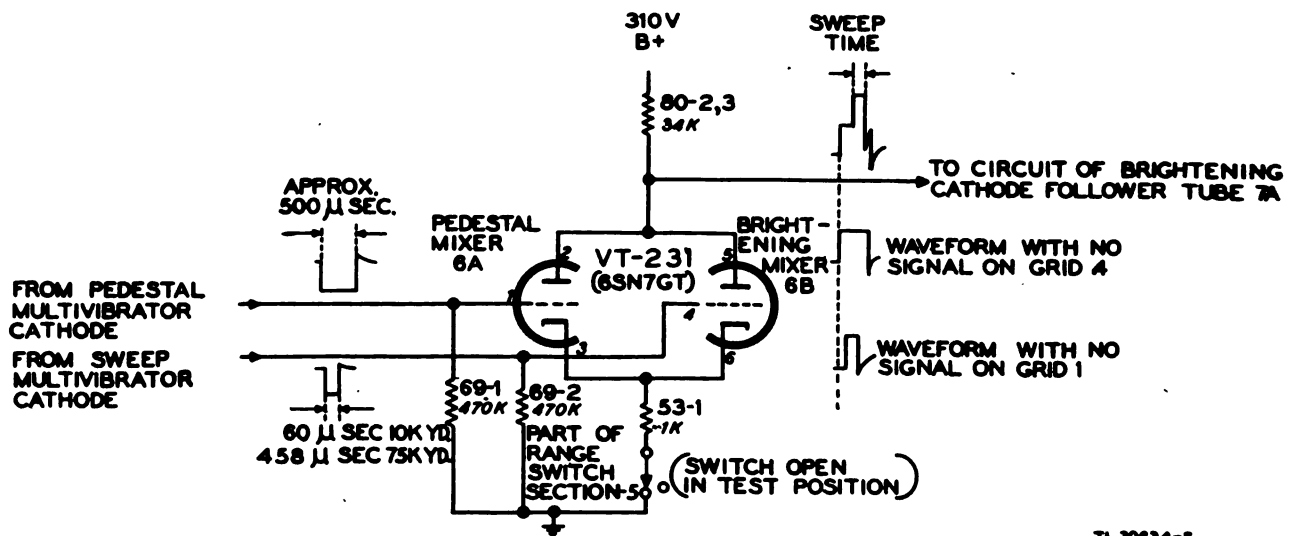

Figure 51. Sweep brightening mixers.
#### 43. SWEEP BRIGHTENING MIXERS (fig. 51).
ing mixer have a common plate load resistor, the output of the two stages is the combined waveform shown in figure 51. This waveform is applied to the grid circuit of brightening cathode-followed tube 7A.
mixers (fig. 51). The R-C time constant of this circuit is about 2,000 microseconds.
(2) In the 75 K YD. range switch position the leading edge of this pulse occurs  $3\frac{1}{4}$  microseconds after the start of the 75,000-yard sweep, and the trailing edge coincides with the end of the 75,000-yard sweep. Although the output of the pedestal multivibrator has greater duration than the 75,000-yard sweep, the "adding" action of the sweep brightening mixer circuit, as shown in the waveforms of figure 51, the clipping action of the brightening cathode follower stage, and the setting of the INTENSITY control result in an effective brightening pulse coinciding with all but the first  $3\frac{1}{4}$  microseconds of the 75,000-yard sweep.
(3) In the 10 K YD. range switch position the output pulse corresponds in time and duration with the one in every eight 10,000-yard sweeps which is to be brightened. This is true at all ranges beyond about 530 yards ( $3\frac{1}{4}$  microseconds); if the radar range were set to zero yards, the first  $3\frac{1}{4}$  microseconds of the 10,000-yard sweep would be blanked.
(4) In either position of the range switch, the brightening pulse terminates soon enough to eliminate sweep flyback on the display screen and also to prevent the appearance at the beginning of the sweep of a bright spot caused by the electron beam lingering at the left end of the screen between sweeps.